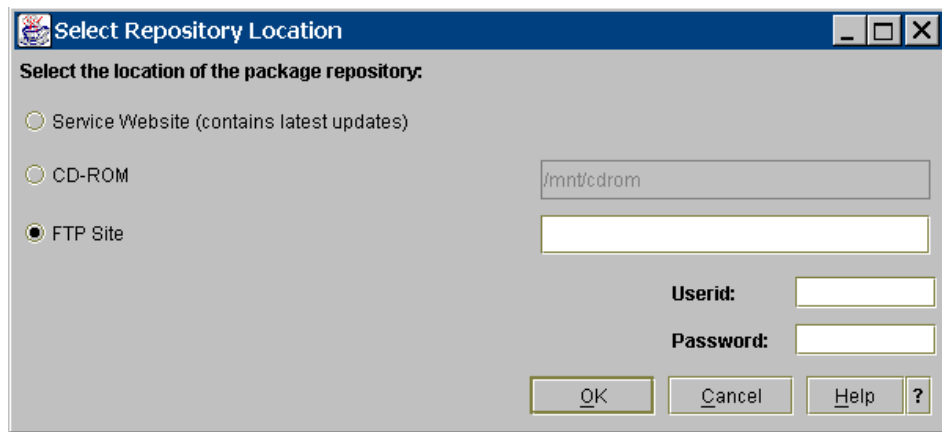

Figure 5-20 Select Repository Location
3. Select the location where the latest microcode levels are stored and select **OK** as shown in Figure 5-20.